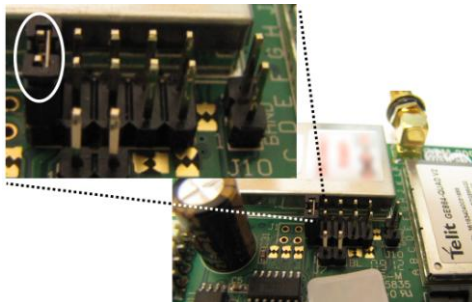

Figure 8. GSM Full rate jumper
3. If the communicator will transmit only in Full rate, place J1 jumper on the left two pins. See Figure 8 "GSM Full rate jumper (Voice channel only)" on page 7.